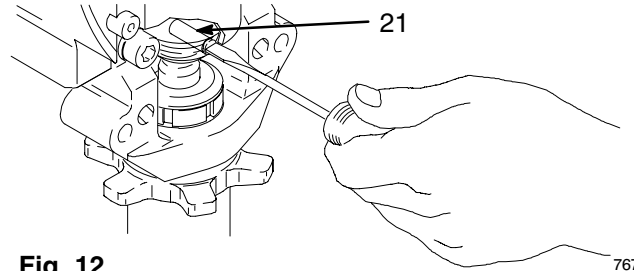

Fig. 12 7675B
3. Fig. 12. Use screwdriver: push retaining spring up and push out pin.
2. Fig. 12. Push pin (21) into hole. And push retaining spring into groove all the way around connecting rod.